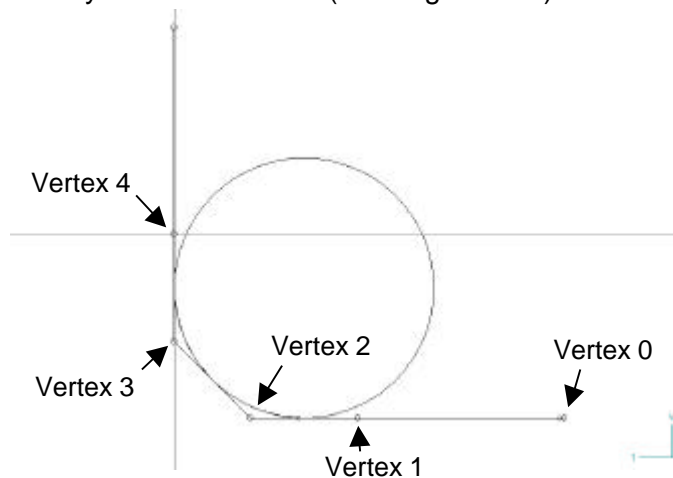

Figure 2-6: Matching the Midship Curve to the template
2. Use the arrow keys on the keyboard to move the lower points (vertices 1 and 2) transversely and the upper points (vertices 3 and 4) vertically until the bilge radius portion of the midship curve is the same shape as the template curve. You may have to adjust the snap value in order to move the vertex by small distances. (See Figure 2-6.)
**Note:** The curve generated in Figure 2-6 is tangent to the straight line segment between adjacent, normal vertices, at the halfway point of the straight line segment. The fillet operation creates an exact circular arc while the matching operation creates a parabolic approximation.